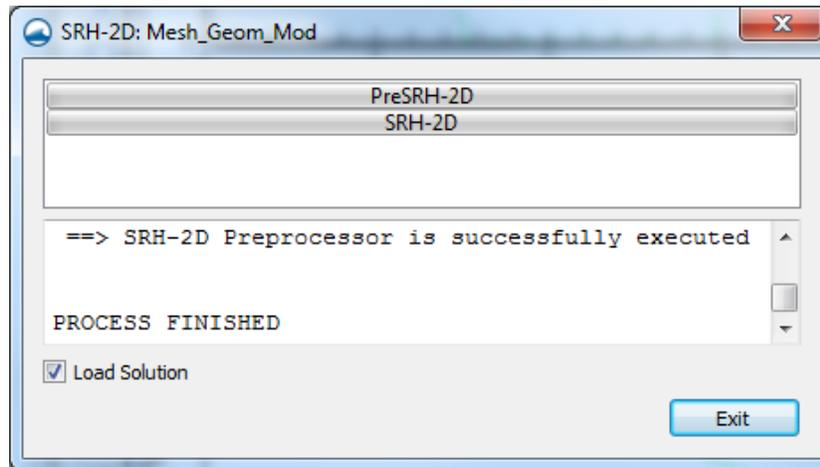

Figure 4 SMS Model Wrapper
8. Make sure *Load Solution* is checked, as shown in Figure 4, in the SMS model wrapper and click **Exit**. The solution datasets will now be listed in the Project Explorer under “Gila_Mesh”.